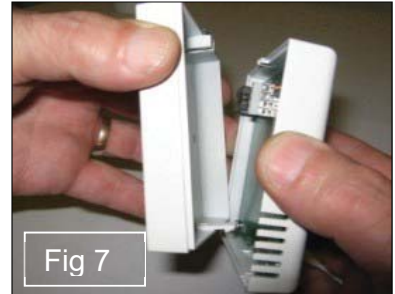

Fig 7
Step 1 Undo the screw on the top of the remote control case and pull the back case away (see Fig 7).
Step 1 Using a screwdriver undo the screw on the top of the remote control case and pull the back case away (see Fig 7).